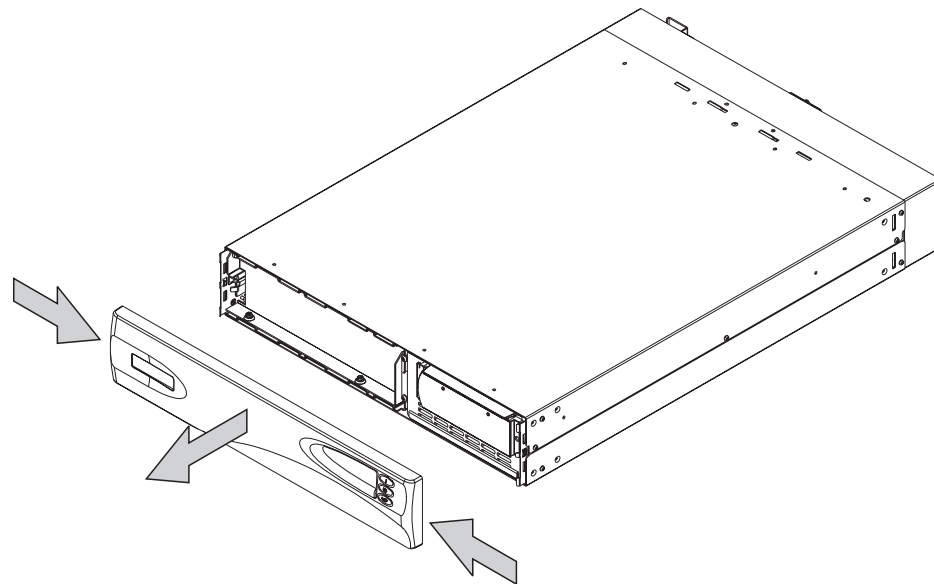

Figure 307. Removing the 2145 uninterruptible power supply front panel
2. Remove the front panel by pressing the sides inward, and pulling on both ends towards you, as shown in Figure 307.